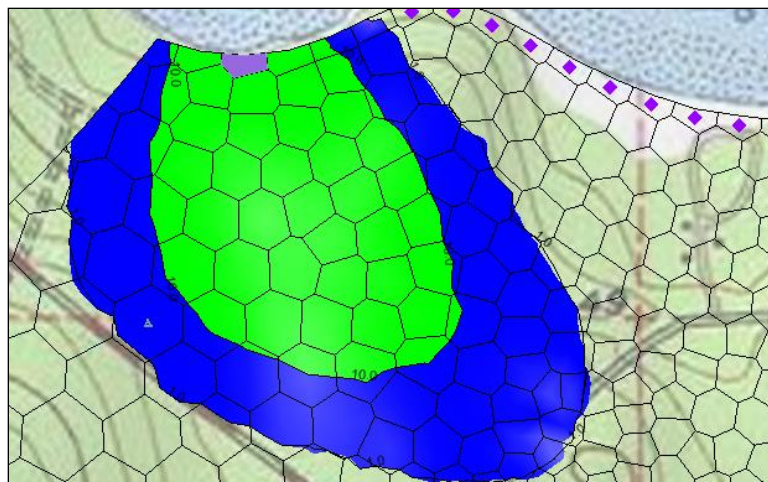

Figure 6 Select cell 840 in layer 1
16. Using the **Select Cells**  tool, select cell 840 in layer 1 as in Figure 6.